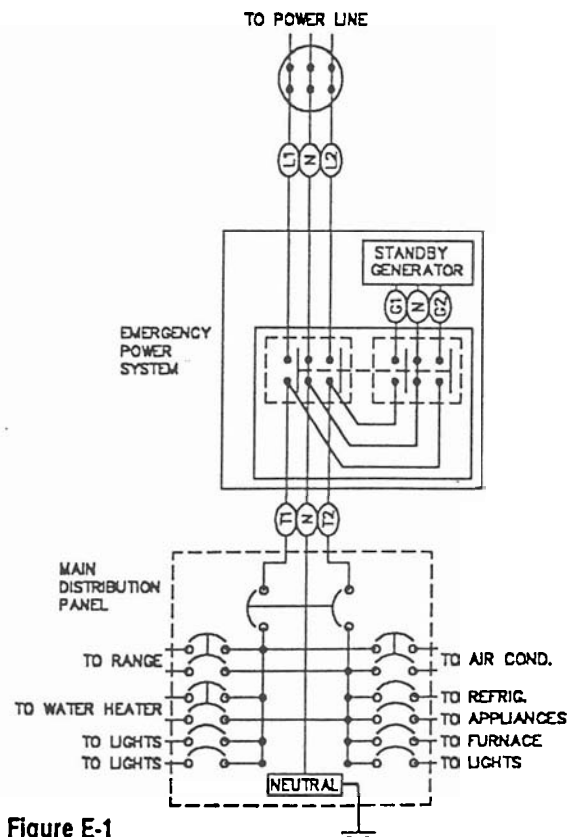

Figure E-1
2. If the generator set is connected to existing (electrical) wiring circuits, it is permitted only through a fully isolated manual transfer switch. The transfer switch prevents damage to the generator and other circuit components if main line power is restored while the generator is disconnected. Installing a transfer switch also permits the use of normal fusing. See Figure E-1 for typical wiring example.